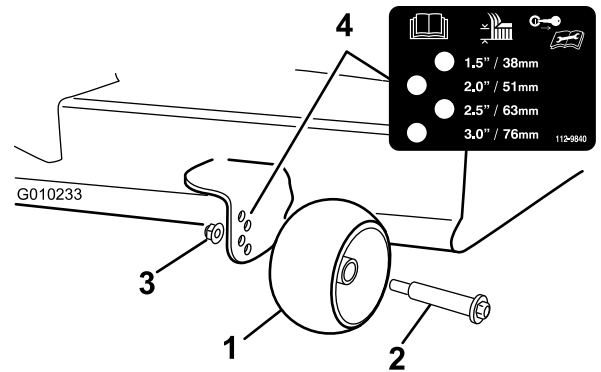

Figure 30
3. Adjust the anti-scalp rollers as shown in Figure 30 to match the closest height-of-cut position.